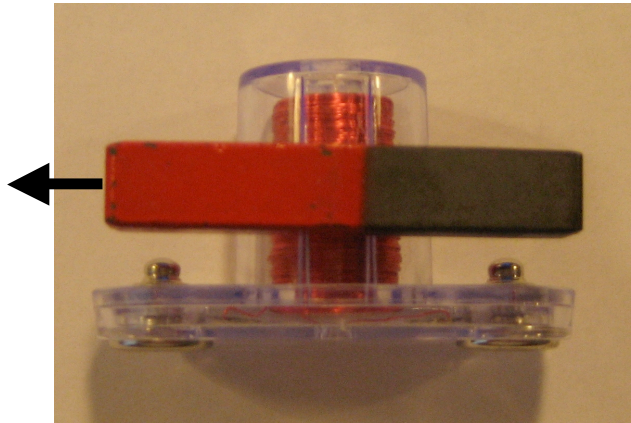

Figure 3
3. Hold the bar magnet against the coil (vertically or horizontally) and move it up and down or across back and forth (see **figures 3 & 4** below). Observe the meter needle while moving the magnet. Very small movements will be detected.